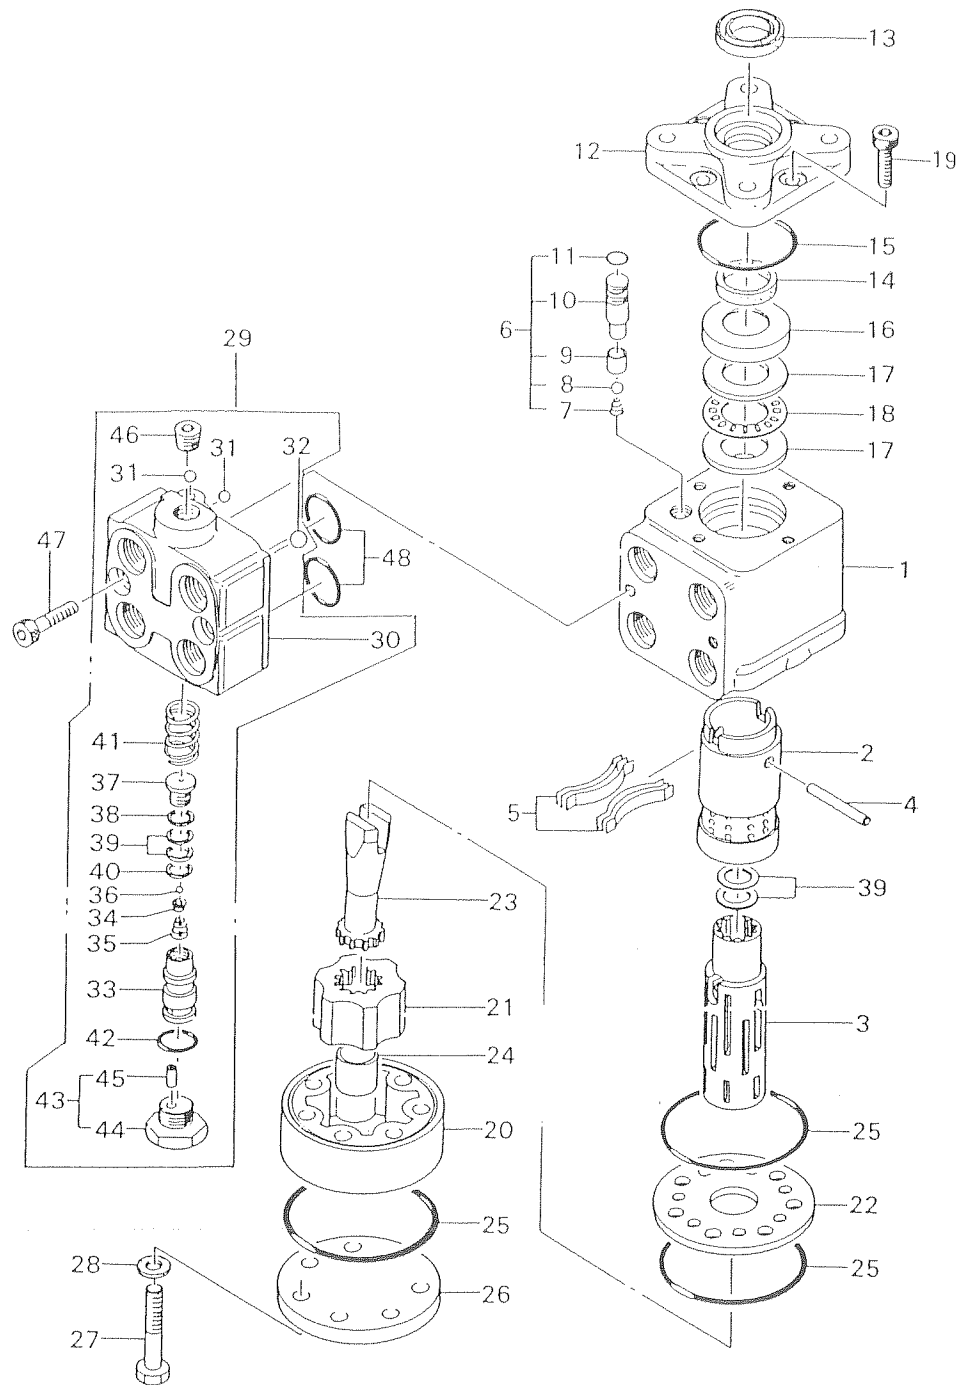

Fig. 46
**NOTE:** Plugs and bolts in table above correspond to those in Fig. 46.